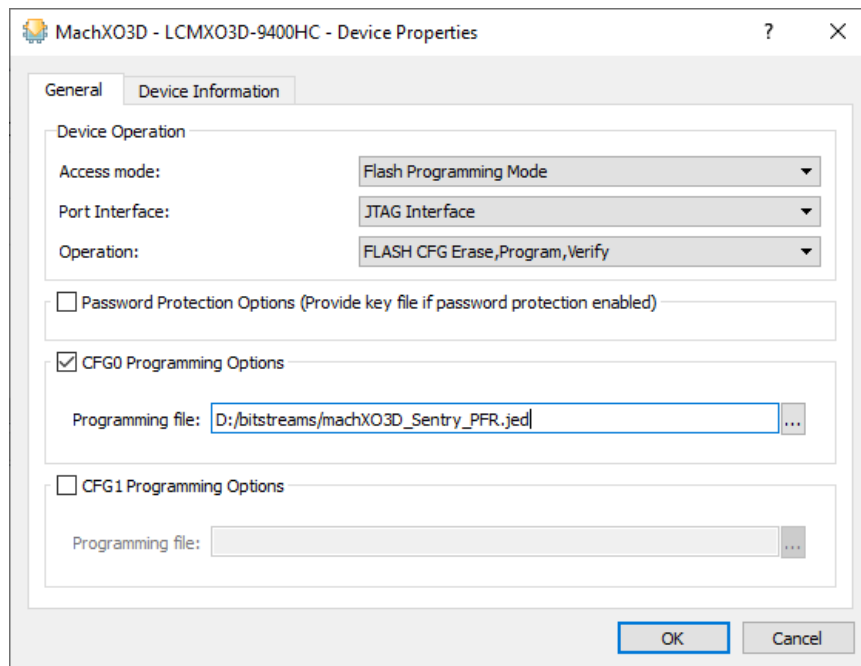

Figure 4.14. Device Operation
3. Configure operation for Device 1 as shown in Figure 4.14.